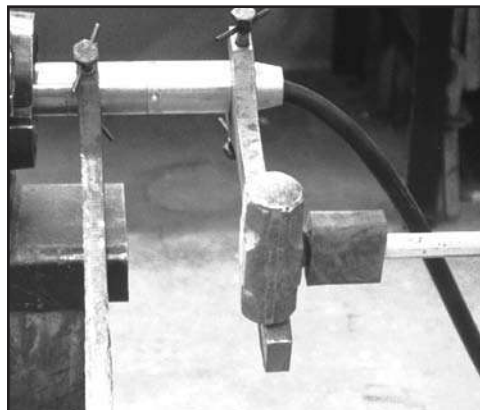

FIG. 39: LOOSEN REVERSE CONE
1. Attach a spanner to the reverse cone, loosen with a large hammer (see Fig. 39) and take it off.